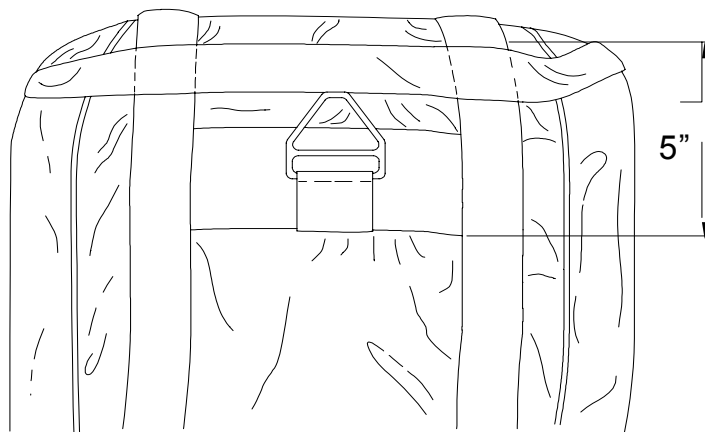

Figure 3. Deployment Bag Marked.
- d. Where the type VIII reinforcement webbing intersects the 1½-inch reinforcement tape (located at the bottom end of the d-bag), measure up 5-inches and mark each side (figure 3).